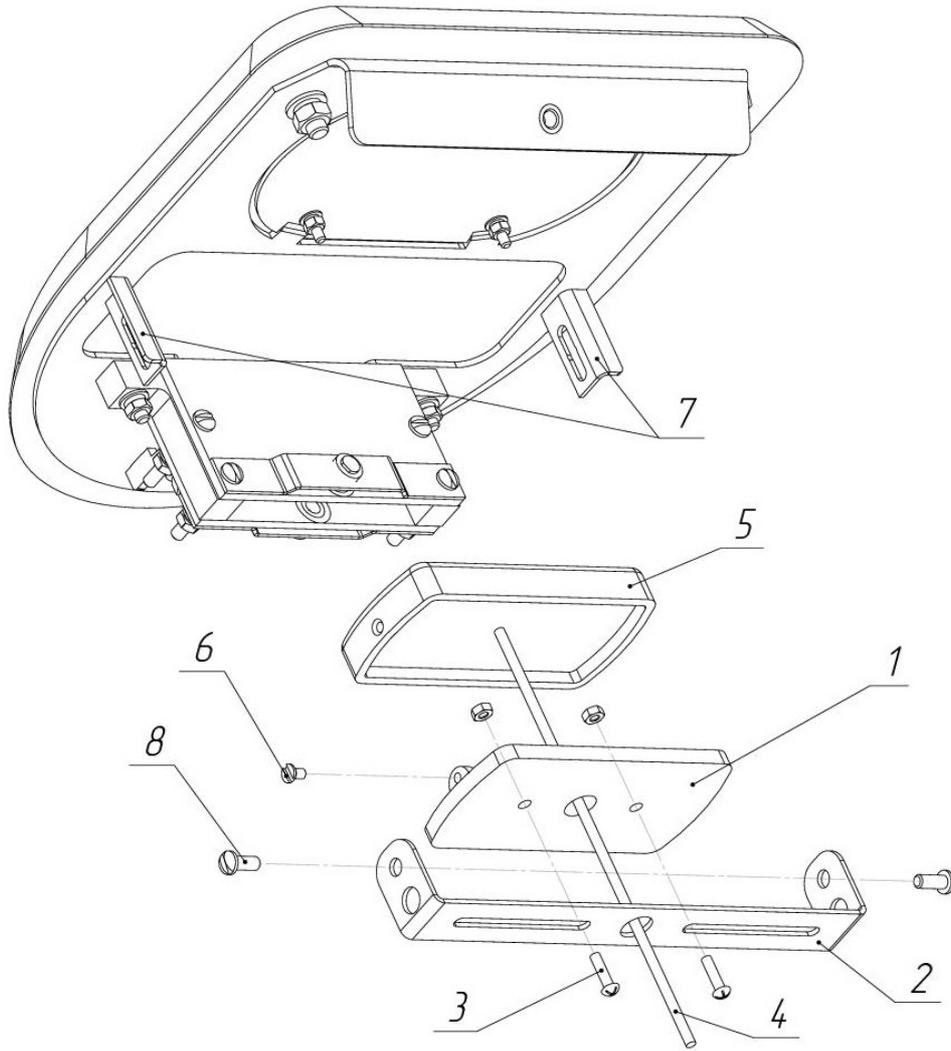
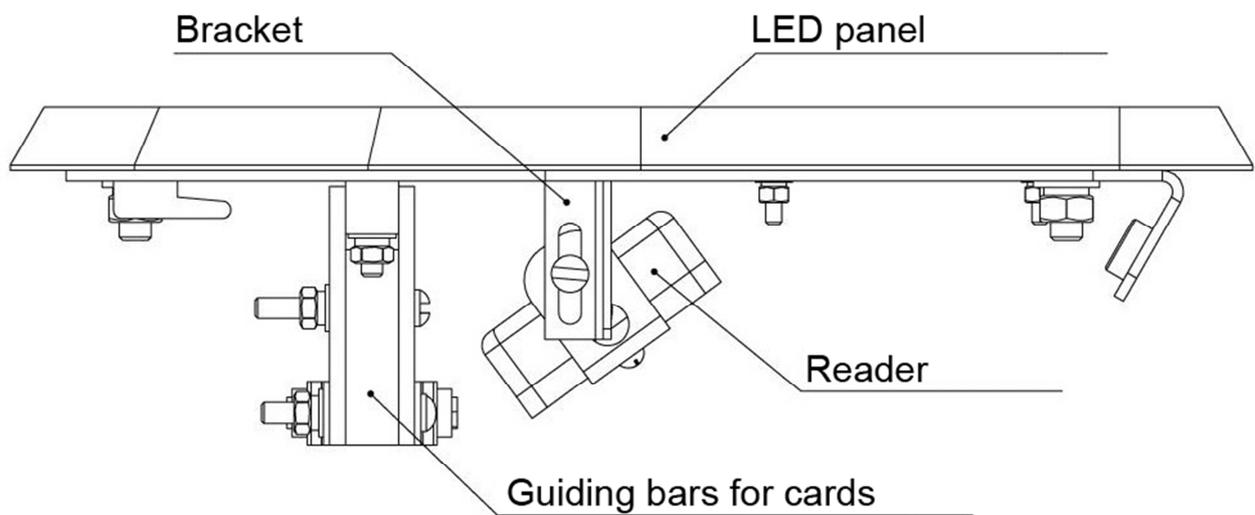

Fig. 15 Installation of proximity card reader
Fig. 16 Recommended option of card reader installation
6.5.3. Remove two M4 screws (8, Fig. 15) and remove the universal bracket for readers (2, Fig. 15).
6.5.4. Disassemble the reader, removing the M3 screw (6, Fig. 15), and set its lower part (1, Fig. 15) on the bracket using two M4 screws with nuts, washers and lockwashers (3, Fig. 15).
6.5.5. Put the cable (4, Fig. 15) in the bracket hole, install the top cover of the reader (5, Fig. 15). Tighten the M3 screw (6, Fig. 15).
6.5.6. Fix the bracket to clips (7, fig. 15) using M4 screws (8, Fig. 15). It is recommended to install a reader at an angle of 40 ... 50° to guiding bars for cards (Fig. 16). In this case, both the guest and the permanent card will be read equally well.